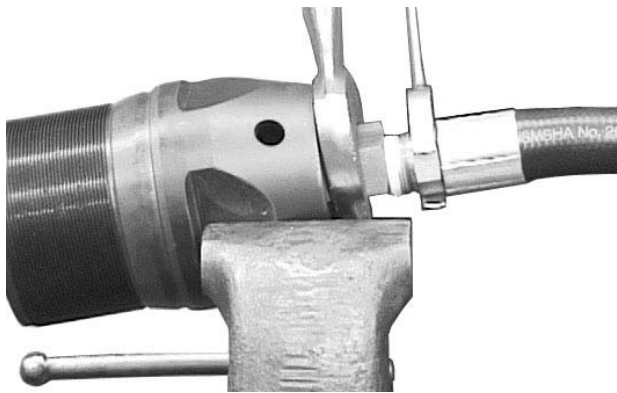

Figure 11-1. Remove Whip Hose from Adapter
2. Using a 1-3/4-inch open-end wrench to hold the Adapter (16) in place, use a 1-3/8-inch open-end wrench to loosen and thread the hose fitting of Whip Hose (18) from the Adapter. Refer to Figure 11-1.